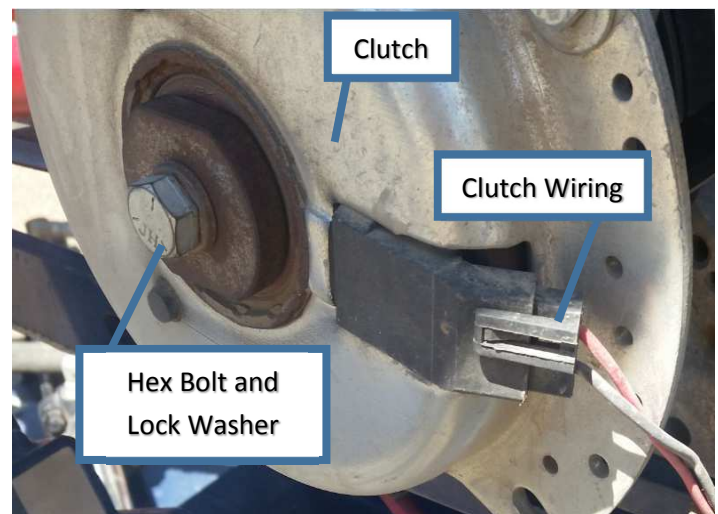

Figure 2
- Remove Hex Bolt and Lock Washer from the Clutch and disconnect the wires as shown in Figure 2